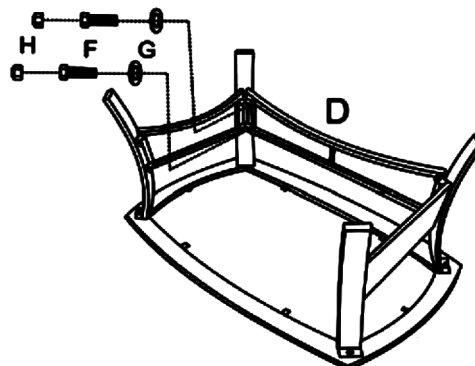

Figure 4
Step 3. Place the seat cushion (G&H), back cushion (I&J) and toss pillow (K) on the seat. Your sofa is now ready to use. (Figure 4).
Step 5. Then assemble one of the long leg connector (D) to the table legs (B) with bolts (F) and washers (G) by using open wrench(I) as shown in figure 4.